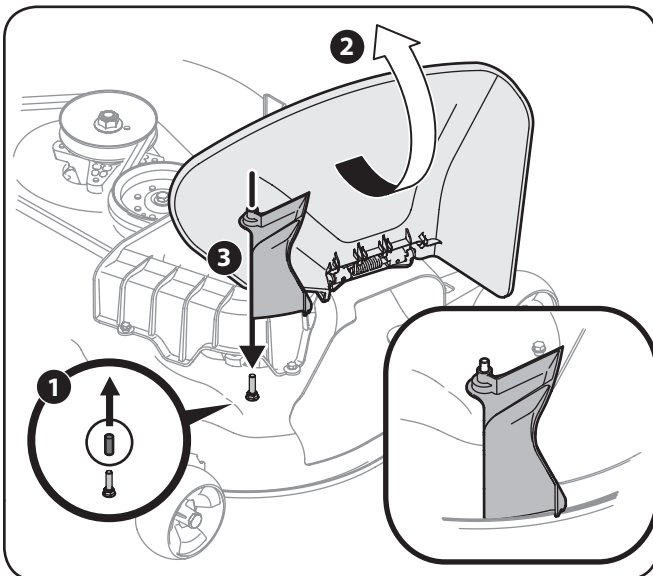

Figure 4-21
- Remove the deck pin rubber protective cap, 1 in Figure 4-21.
- Raise the chute deflector (2 in Figure 4-21) on the deck and hold it while you install the (731-10133) chute adapter(3), included in hardware pack 689-00341, onto the deck as shown in Figure 4-21.